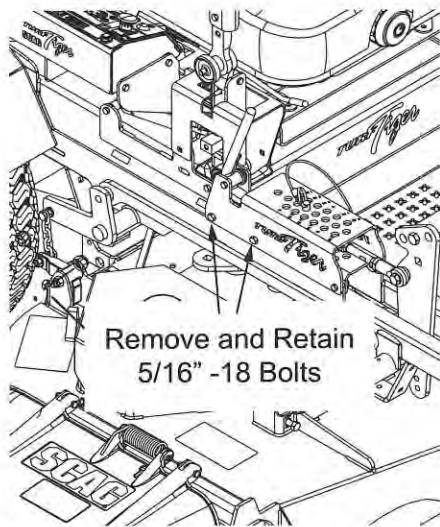

Figure 3-25. STTII Hardware Removal
1. Remove and retain the two (2) 5/16-18 x 1 1/4" bolts securing the cutting height bracket to the frame. See Figure 3-25.
2. Install the RF control module mounting bracket to the cutting height bracket using the 5/16 - 18 x 1 1/4" bolts removed in step 1. See Figure 3-25.